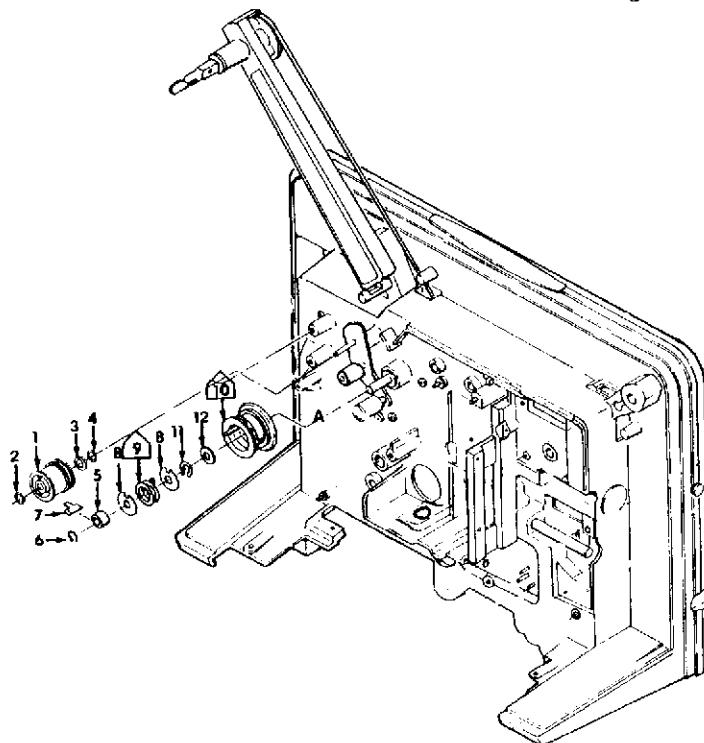
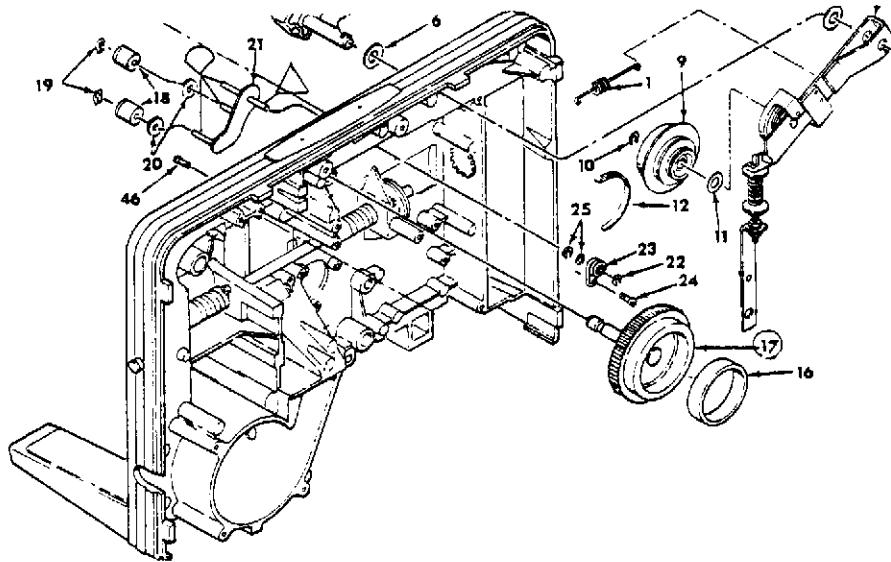

Figure 3-12 REMOVAL AND REASSEMBLY OF TAKE-UP SPROCKET
Figure 3-13. REMOVAL AND REASSEMBLY OF TAKE-UP GEAR
2. Remove the Grip Ring (6) and manually rotate the take-up Sprocket (10) clockwise slightly to move the sprocket Pin away from the stop (7). (Figure 3-12)
3. Grasp the Stop (7) with a pair of pliers and pull it straight out.
4. Slowly release your grip on the Sprocket (10) and allow the Spring (9) to unwind.
5. Remove the Spacer (5), Outside Washer (8), Spring (9) and Inside Washer (8). (The two washers (8) are usually removed easily with a magnet.)
6. Remove Grip Ring (11), Washer (12) and Sprocket (10).
7. Slide the Take-Up Gear out of the main casting bearing (Figure 3-13).
3. Assemble the sprocket (10) and the correct number of Washers (12) to allow for .003 to .007" end play of the sprocket (10) when the Grip Ring (11) is installed (Figure 3-12).
4. Install Inside Washer (8) and Spring (9). (The Spring (9) should be installed so turning the Sprocket (10) clockwise will tighten the Spring.)
5. Install Outside Washer (8) after lubricating the surface of the Spring (9) with Terreso Instrument Oil (39479-P8).